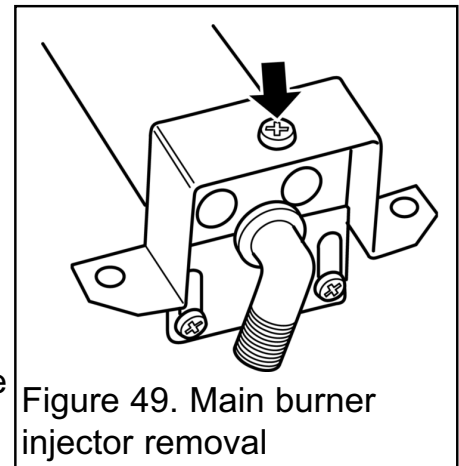

Figure 49. Main burner injector removal
(See figure 49).
2. Remove the burner clamping screw (See figure 49)